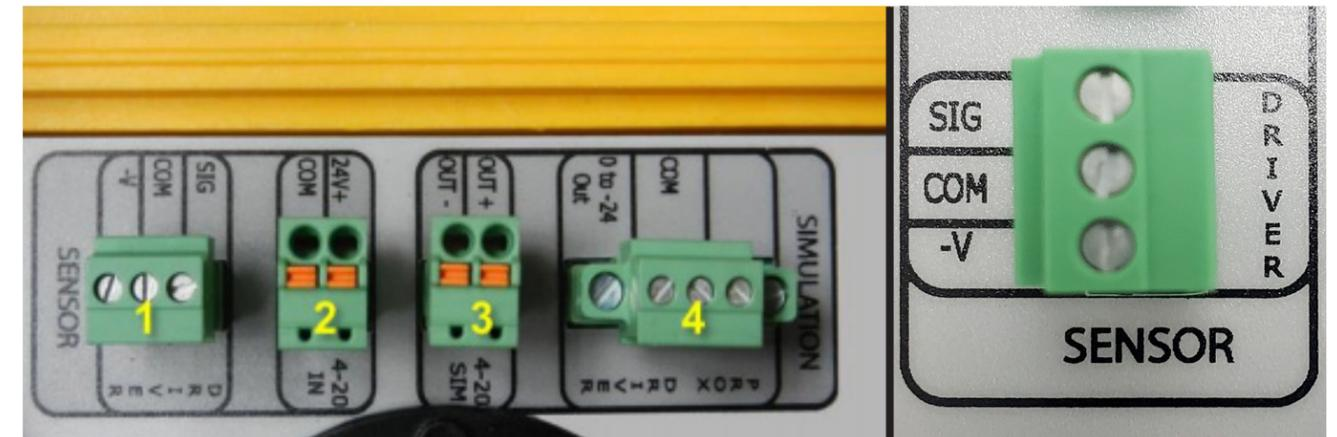
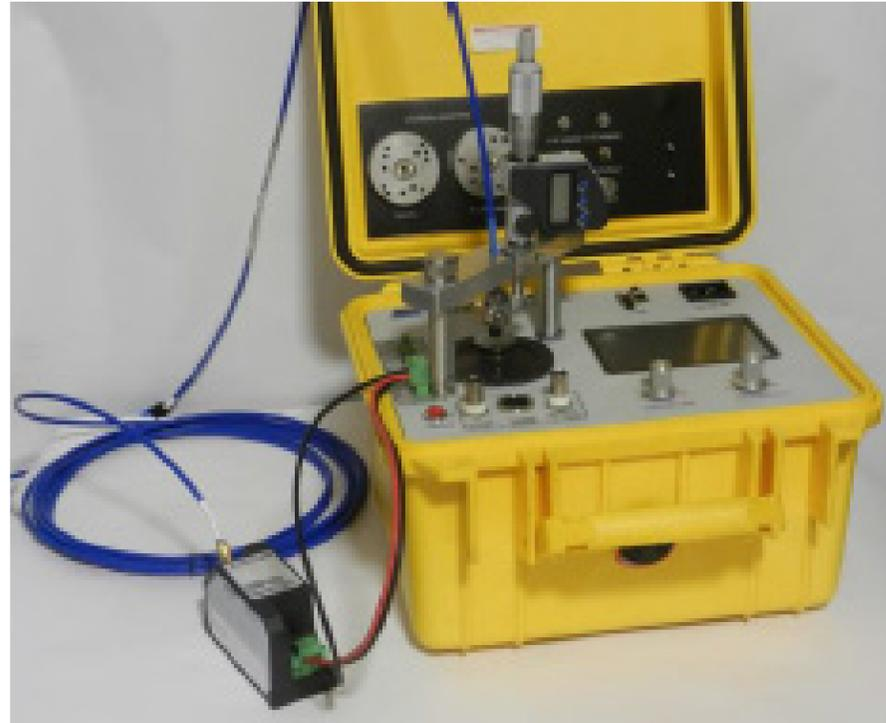

Figure 43. Proximity probe driver input
Figure 44. Proximity probe driver connected to AT2040
1. Connect the driver to the **Proximity Probe Driver Input** (labeled "1" in Figure 43), see also Figure 44: